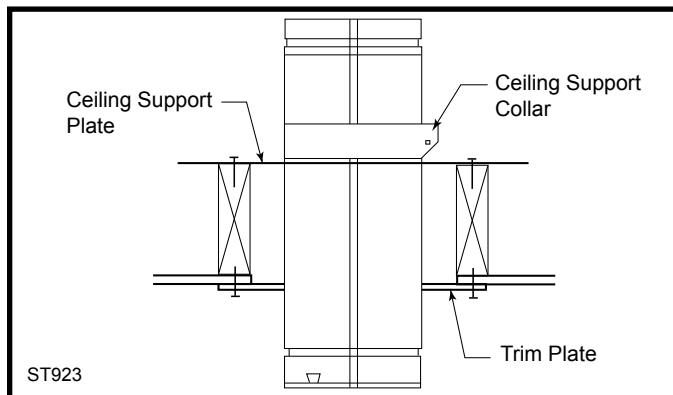

Figure 35 Ceiling support.
Ceiling Support (CS) (used in flat ceiling installation) comes with a support plate and a support collar. Install it by screwing the support plate to the top of the properly framed ceiling joist opening, using screws provided. A round trim plate (TP) is attached to the ceiling, using screws, to provide a finished appearance once installed. (Figure 35)